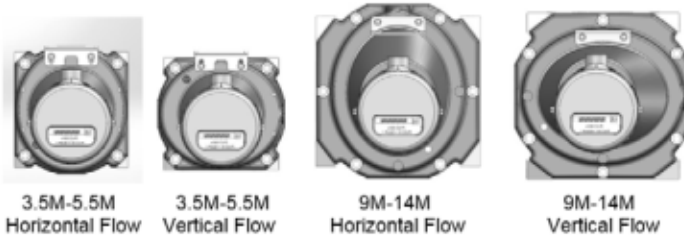

Figure 26. Support bracket attachment
- (2) Using a 5mm Allen wrench, loosely install two M6 socket head cap screws through the support bracket into the meter case cover [Figure 26]. The screws will be tightened after alignment of all parts.